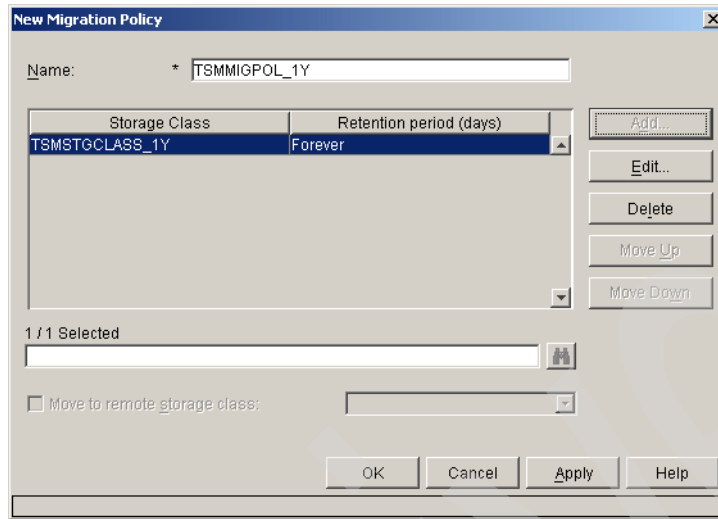

Figure 8-16 New Migration Policy window
- g. Right-click **Migration Policies** and click **New** to open the New Migration Policy window, as shown in Figure 8-16.